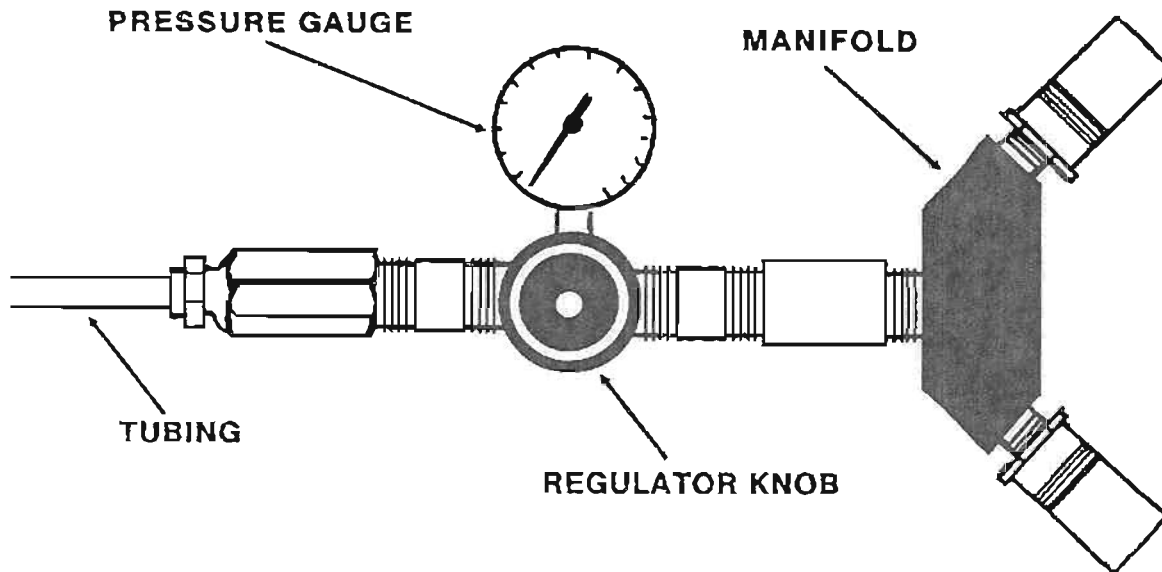

Figure 3-8. Manifold/regulator assembly.
(1) Install either connector on the yellow rubber conductive (black striped) hose to the MEDICAL AIR inlet connection on the blender.
(2) Connect the remaining connector, on the yellow rubber conductive hose to the manifold/regulator assembly (fig 3-8).
(3) Connect the threaded connector end of the yellow plastic tubing to the manifold/regulator assembly.
(4) Install the quick-disconnect onto the dental compressor air outlet.